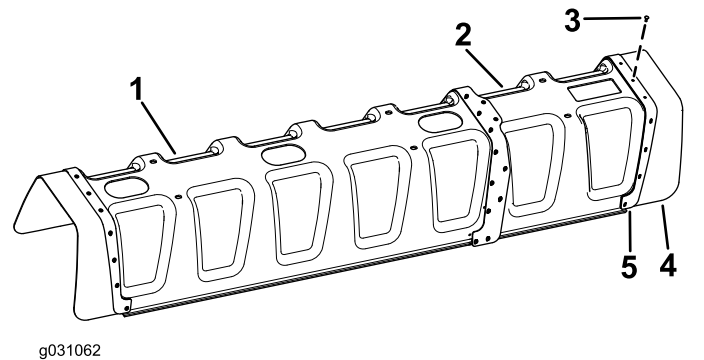

Figure 7
3. Using 11 pop rivets (3/16 x 1/2 inch) and washers (3/16 inch), install the rubber cover and reinforcement plate (from the 11-nozzle cover) to the 12-nozzle cover (Figure 7).